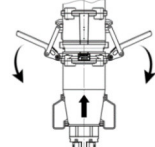

Fig.10: Closing the locking levers
3. Pull both locking levers towards your body at the same time in order to close the locking levers (Fig.10/arrows).